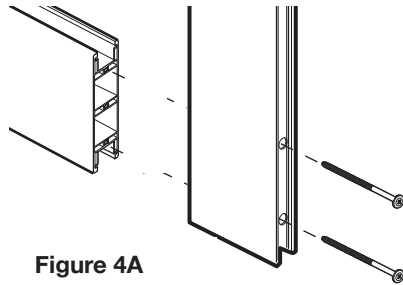

Figure 4A
Place 2 of the 4" screws (Z) into the 2 holes in the outside of the channel. Make sure they are fully inserted. See Figure 4A & 4B